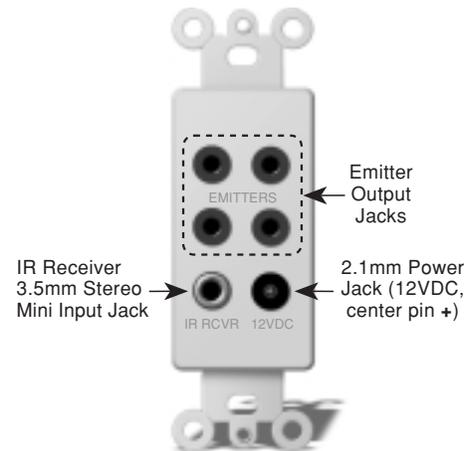

Fig. 1 789-44D Connecting Block
5. The "IR RCVR" jack on the 789-44D (see **Fig. 1**) allows the 490-30 (and other Xantech IR Receivers with a cable having a 3.5 mm stereo mini plug), to be plugged directly into the 789-44D. You can do this when the 789-44D Connecting Block is within reach of the 7-foot cable, such as when installing the 490-30 in a cabinet where the controlled equipment is behind closed doors.